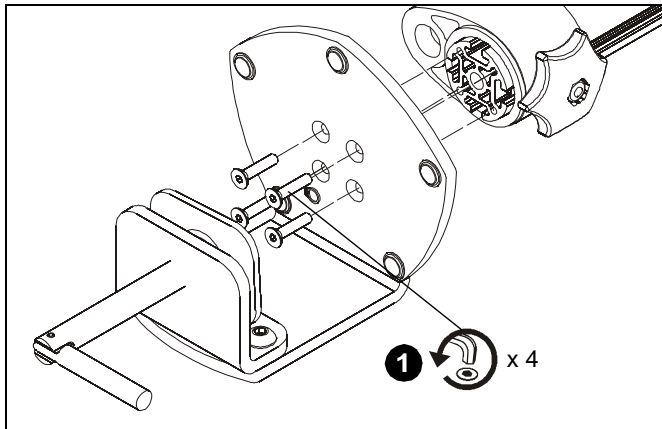

Figure 2
1. Use 1/8" hex key (F) to remove desk clamp from mount by removing four flat head cap screws until clamp is disconnected from column. (See Figure 2)